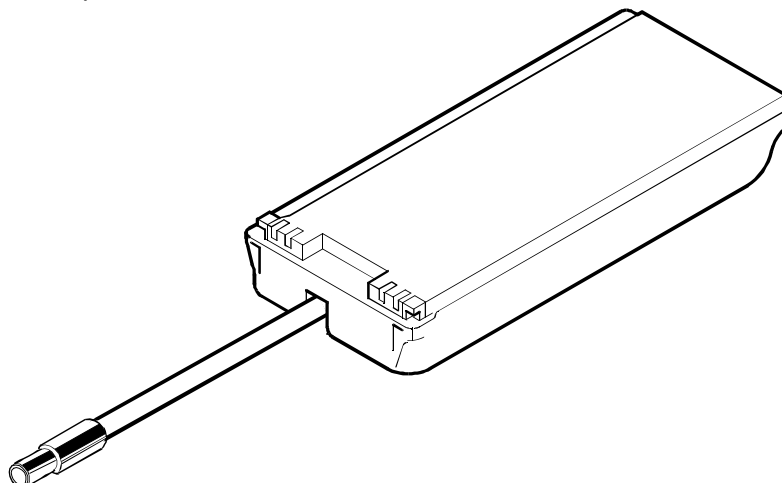

Figure 2: External Battery Supply Unit
**4. External Battery Supply Unit (Figure 2)**